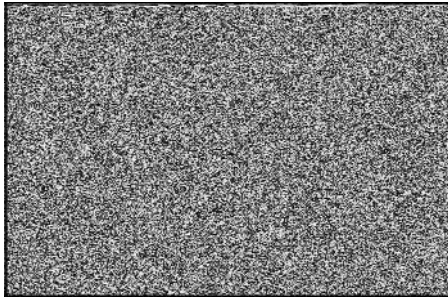

Figure 36
4. Using Tang Bender #19229 or #19352, bend governed idle spring tang to obtain 1750 RPM (Figure 36).